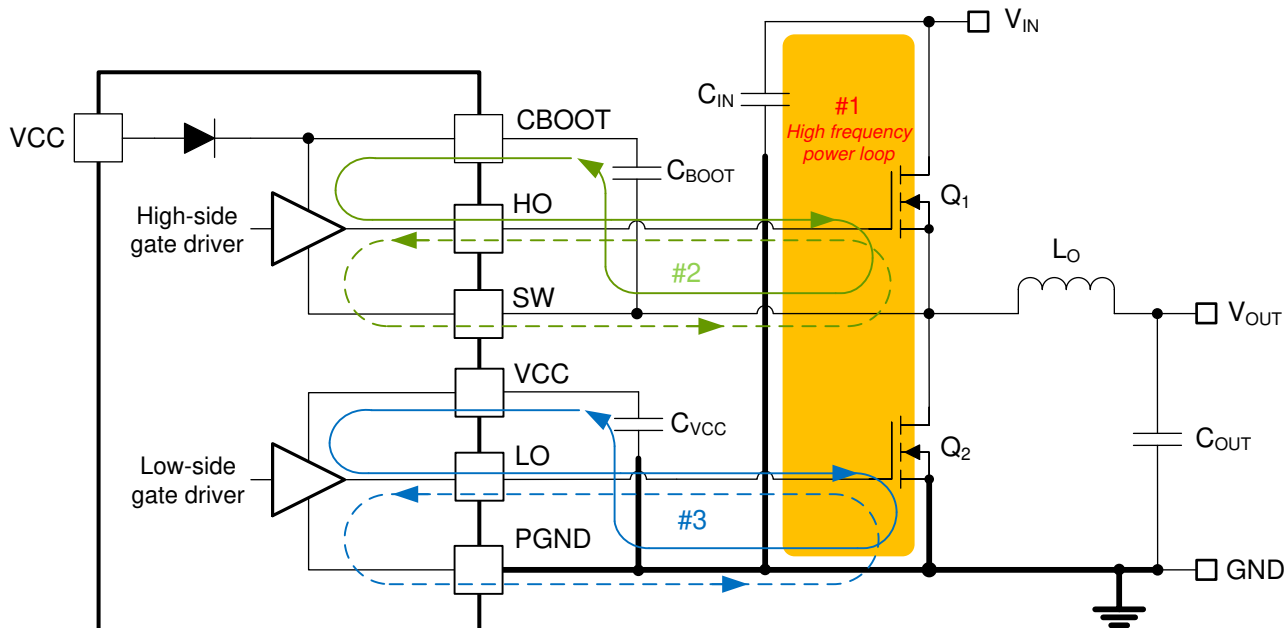

Figure 11-1. DC/DC Regulator Ground System With Power Stage and Gate Drive Circuit Switching Loops
Proper PCB design and layout is important in a high-current, fast-switching circuit (with high current and voltage slew rates) to achieve a robust and reliable design. As expected, certain issues must be considered before designing a PCB layout using the LM25148. The high-frequency power loop of a buck regulator power stage is denoted by loop 1 in the shaded area of Figure 11-1. The topological architecture of a buck regulator means that particularly high di/dt current flows in the components of loop 1, and it becomes mandatory to reduce the parasitic inductance of this loop by minimizing its effective loop area. Also important are the gate drive loops of the high-side and low-side MOSFETs, denoted by 2 and 3, respectively, in Figure 11-1.
- Loop 1: The most important loop area to minimize is the path from the input capacitor or capacitors through the high- and low-side MOSFETs, and back to the capacitor or capacitors through the ground connection. Connect the input capacitor or capacitors negative terminal close to the source of the low-side MOSFET (at ground). Similarly, connect the input capacitor or capacitors positive terminal close to the drain of the high-side MOSFET (at VIN). Refer to loop 1 of Figure 11-1.
- The SW pin connects to the switch node of the power conversion stage and acts as the return path for the high-side gate driver. The parasitic inductance inherent to loop 1 in Figure 11-1 and the output capacitance (C_{OSS}) of both power MOSFETs form a resonant circuit that induces high frequency (greater than 50 MHz) ringing at the SW node. The voltage peak of this ringing, if not controlled, can be significantly higher than the input voltage. Make sure that the peak ringing amplitude does not exceed the absolute maximum rating limit for the SW pin. In many cases, a series resistor and capacitor snubber network connected from the SW node to GND damps the ringing and decreases the peak amplitude. Provide provisions for snubber network components in the PCB layout. If testing reveals that the ringing amplitude at the SW pin is excessive, then include snubber components as needed.
- Loop 2: high-side MOSFET, Q_1 . During the high-side MOSFET turnon, high current flows from the bootstrap (boot) capacitor through the gate driver and high-side MOSFET, and back to the negative terminal of the boot capacitor through the SW connection. Conversely, to turn off the high-side MOSFET, high current flows from the gate of the high-side MOSFET through the gate driver and SW, and back to the source of the high-side MOSFET through the SW trace. Refer to loop 2 of Figure 11-1.
- Loop 3: low-side MOSFET, Q_2 . During the low-side MOSFET turnon, high current flows from the VCC decoupling capacitor through the gate driver and low-side MOSFET, and back to the negative terminal of the capacitor through ground. Conversely, to turn off the low-side MOSFET, high current flows from the gate of the low-side MOSFET through the gate driver and GND, and back to the source of the low-side MOSFET through ground. Refer to loop 3 of Figure 11-1.